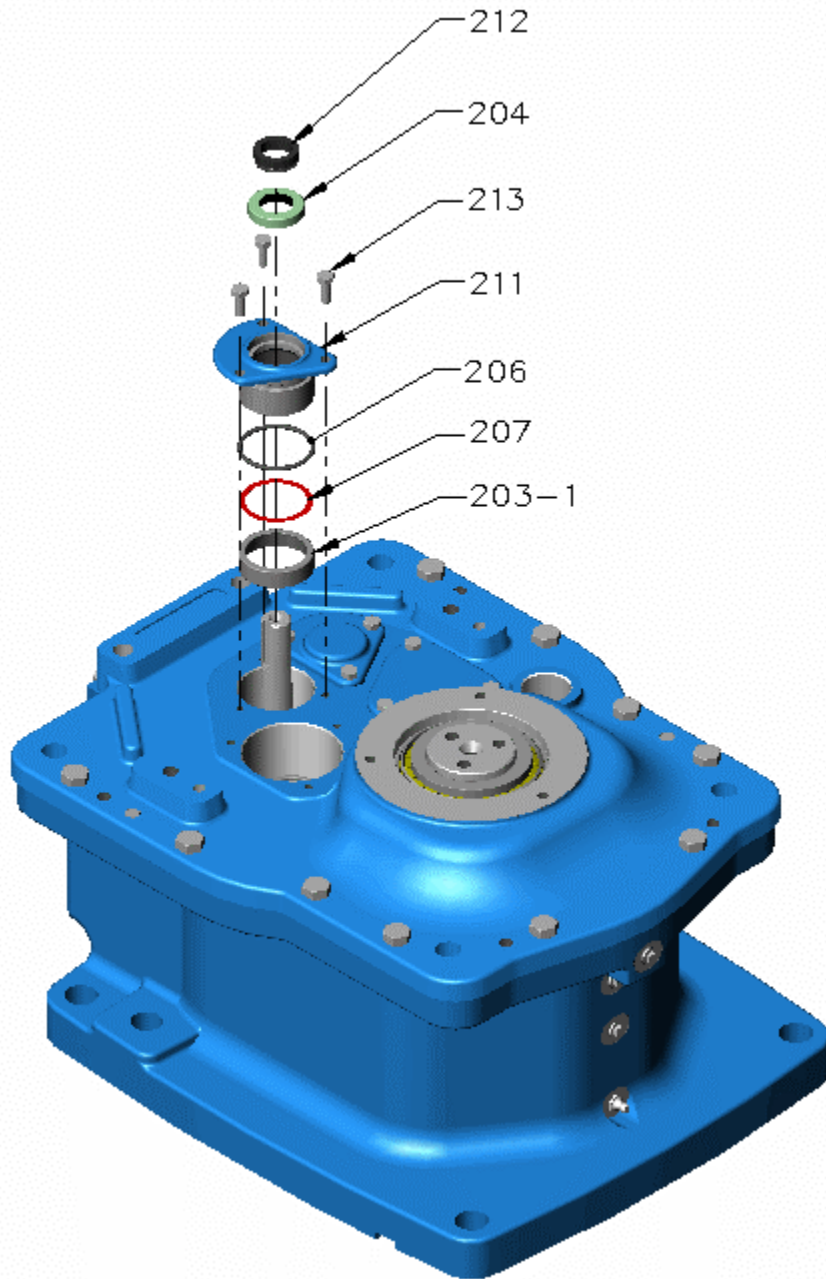

Figure 18 – Input Cap
- Q. Input cap shim selection (refer Figure 18).
- (1) Put the bearing cone **[203-1]** in the case lid bore.
- (2) Put the input cap **[211]** in the bore (no o-ring is necessary at this stage).
- (3) Use hand pressure and push down on the input cap **[211]**.
- (4) Using a Dial Test Indicator (DTI), check the end float on the input shaft by lifting up on the shaft. Record this measurement as "A".
- (5) Number of shims required =  $A - 0.002$ ". Select appropriate shims set **[207]**.
- (6) Insert shim set **[207]**, input cap **[211]**, and bolts **[213]**.
- (7) Torque-tighten bolts **[213]** to value given in Table 1.
- (8) Check end float. It needs to be between 0.001" and 0.003". Else remove input cap **[211]** and repeat from step 1.
- (9) Remove input cap **[211]** and shim set **[207]**.
- R. At input shaft, install following items (refer Figure 18):